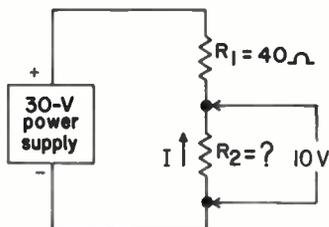

Fig. 56
(1) Heating element (3) Lamp
(2) Relay coil (4) Power supply
- In the circuit of Fig. 56, the voltage rise is 30 V. One of the two voltage drops is known: it is 10 V, as shown. Given these facts (and the fact that this is a series circuit), the unknown voltage drop across the 40- Ω resistor R_1 is
(1) 40 V. (2) 30 V. (3) 20 V. (4) 10 V.